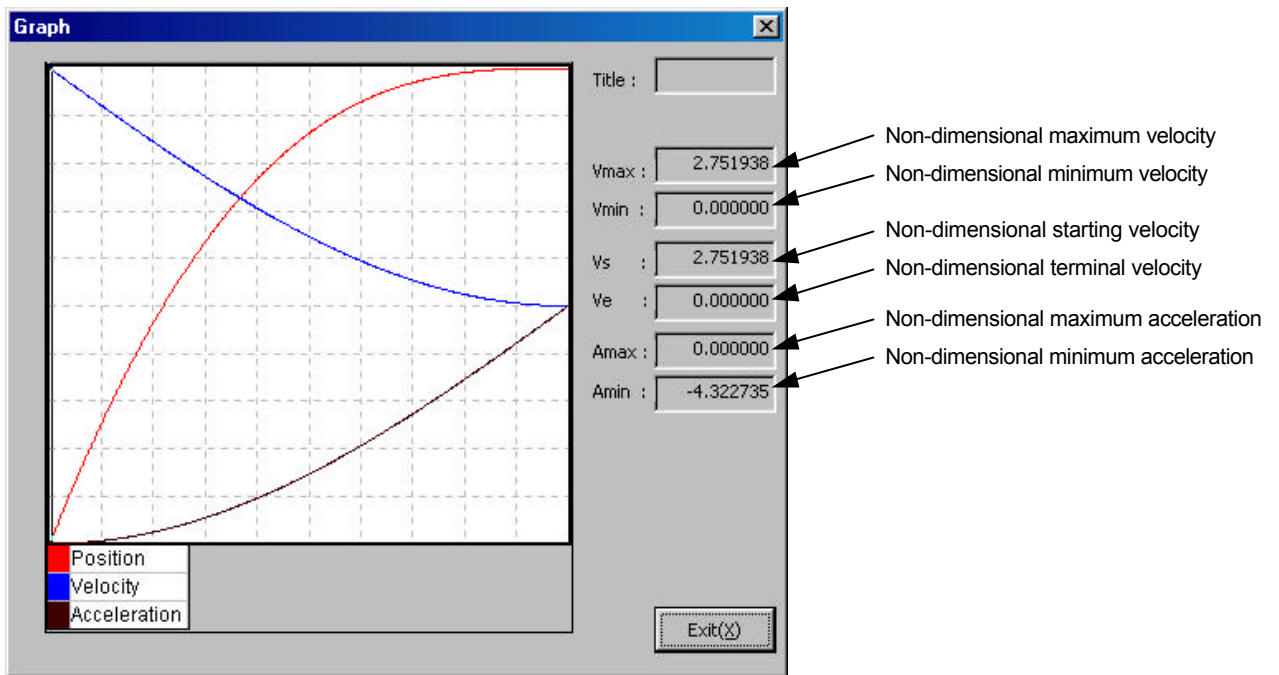

Figure 7.51 "Universal cam profile" graph
- 4) Click “Graph (G)” in the “Universal cam profile” dialog box to display the graph of a universal cam profile (see figure 7.51).